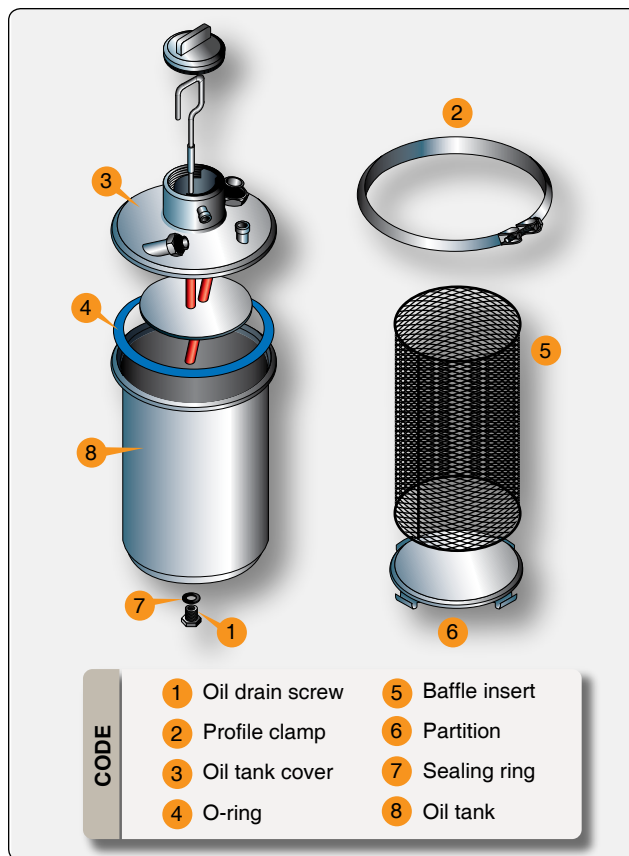

Figure 11-32. Oil tank.
It is advisable to check the oil level prior to an oil change, as it provides information about oil consumption. Run engine to warm the oil before beginning the procedure. Taking proper precautions, crank the engine by hand to transfer the oil from the crankcase. Remove the safety wire and oil drain screw (1) from the oil tank, drain the used oil, and dispose of as per environmental regulations. [Figure 11-32] Remove and replace oil filter at each oil change. It is not necessary to remove oil lines and other oil connections. Draining the suction lines, oil cooler, and return line is not necessary and must be avoided, as it results in air entering the oil system. Replacement of the oil filter and the oil change should be accomplished quickly and without interruption to prevent a draining of the oil system and the hydraulic tappets. Compressed air must not be used to blow through
Cleaning the oil is optional and requires venting of the oil system. It is only necessary to clean the oil tank and the inner parts if there is heavy oil contamination. The procedure for cleaning the oil tank is shown in Figure 11-32. Detach the profile clamp (2) and remove the oil tank cover (3), together with the O-ring (4) and the oil lines. Remove the inner parts of the oil tank, such as the baffle insert (5) and the partition (6). Clean oil tank (8) and inner parts (5, 6), and check for damage. Be aware that incorrect assembly of the oil tank components can cause engine faults or engine damage. Replace the drain screw with a new sealing ring (7) and tighten to 25 Newton meters (Nm) (18.5 ft/lb) and safety wire. Reassemble the oil tank by following the same steps in reverse order.